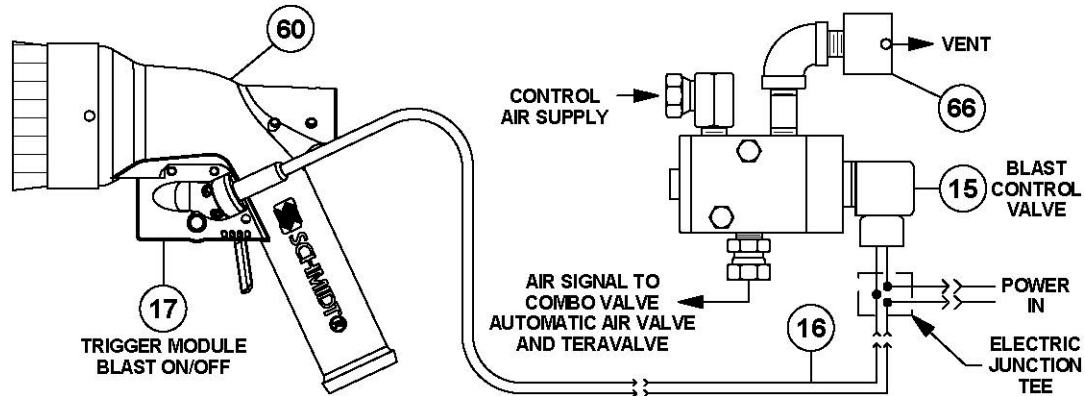

Figure 5.6 – Electric Blast Control System
5.12.2. Electric Deadman System (Optional): When the electric G2E Trigger Deadman lever is pressed down it closes the electric circuit and supplies electric current to the control valve (#15). The control valve opens and sends air signals to the ComboValve® (#8), the automatic air valve (#12) and the Tera Valve™ XL™ (#14). When the deadman lever is released the electric circuit is cut off closing the control valve. The signal air vents from the breather (#66). See Figure 5.6 and Section 9.3.